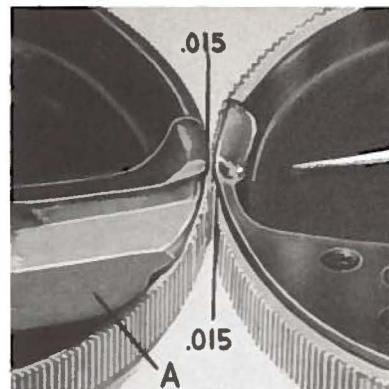
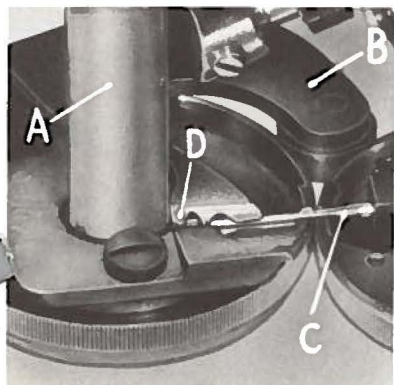

Fig. 7
Fig. 8
Install shim and stationary needle guard (A, Fig. 7) to front feed cup shaft bearing (A, Fig. 8), snugging up screws. This needle guard is set correctly only when the following conditions prevail:
2. The edge of the right section, adjacent to the slot, is .015 inch from bottom of the teeth in front cup (Fig. 7)
Position the stitch tongue support so its front edge is .015 inch in back of the bottom of the rear feed cup teeth (Fig. 7). The support should barely contact the top edge of cup. Tighten screws.
Gauge No. 21227 CC (B, Fig. 8) is used to establish inward-outward travel of the needle (C).